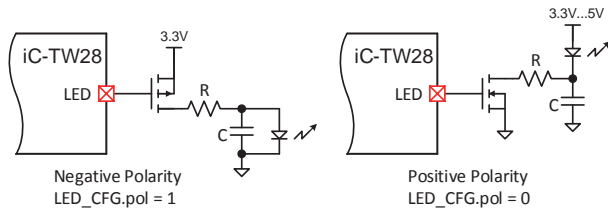

Figure 43: High Current/Voltage LED Connection
If maximum LED current is more than 15 mA or the maximum LED current cannot be supplied by a 3.3 V supply, use an external FET to connect the LED to the iC-TW28 as shown in Figure 43. This is typically the case for blue LEDs due to their higher  $V_f$ .
**Note:** As the iC-TW28 runs at 3.3 V, the LED output may not be able to power a blue LED because  $V_f$  may exceed 3 V. To operate the LED from 5 V, use an external n-channel FET as shown in Figure 43 (right side). This circuit also avoids an overvoltage at pin LED ( $V(\text{LED}) < AVDD + 0.3$  V is required).